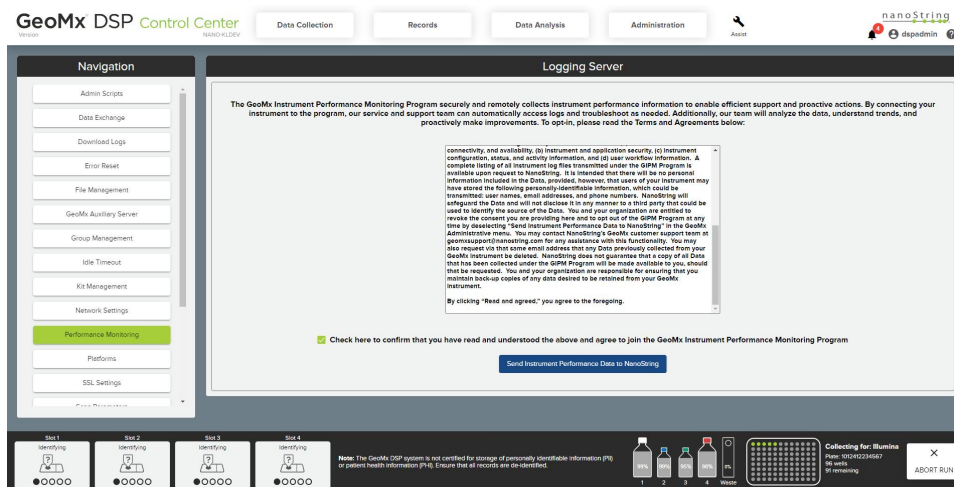

Figure 80: Performance Monitoring option
1. Select **Performance Monitoring** from the **Administration** menu (see Figure 80).